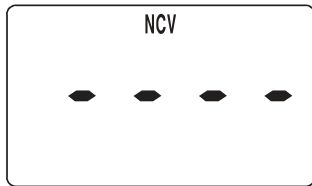

Figure 4
2. Move the meter clamp top where the NCV sensor is located (see Figure 1) close to the object to be tested. When the meter detects electric field generated by ac voltage, the meter will indicate the intensity of the detected electric field. The intensity of detected electric field is indicated by the number of the horizontal bar segments shown on the display (refer to Figure 4), the beeping rate of the built-in buzzer, and the flashing rate of the " NCV " indicator. The higher the intensity of detected electric field, the larger the number of the horizontal bar segments displayed, and the faster the beeping rate of the buzzer and flashing rate of the " NCV " indicator.